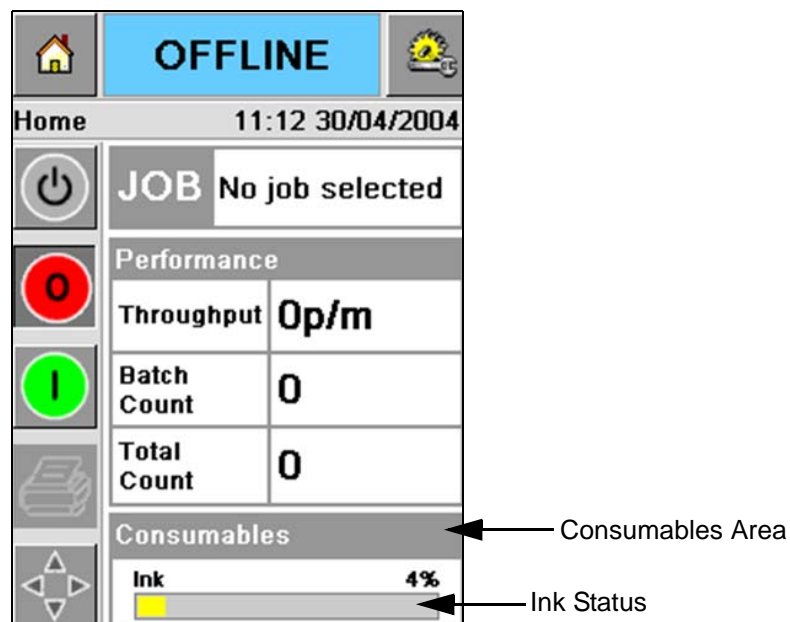

Figure 4-7: Consumables Area
The Consumables area of the Home screen displays a percentage value of ink that is left in the ink canister of the printer. For example refer to Figure 4-7 on page 4-7.
The ink must be added when the ink low level warning appears on the CLARiTY screen. The ink status bar must show less than 5% (Figure 4-7). The ink status shown on the status bar makes sure that the present ink canister is replaced after the present canister becomes empty.
- 1 Touch the *Consumables* area on the Home screen (Figure 4-7 on page 4-7). The *Consumables* screen appears (Figure 4-8).